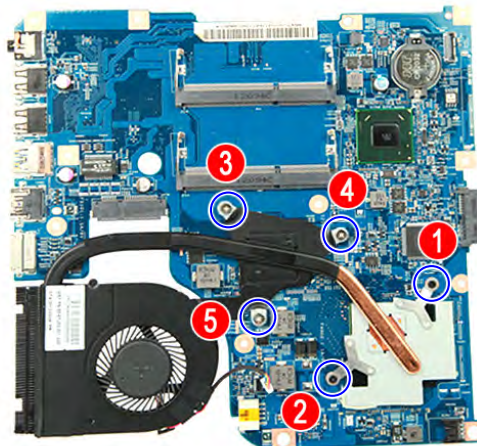

Figure 3-40. Thermal Module Screws
3. Loosen the spring-loaded captive screws securing the thermal module. Follow the screw sequence indicated on Figure 3-40.